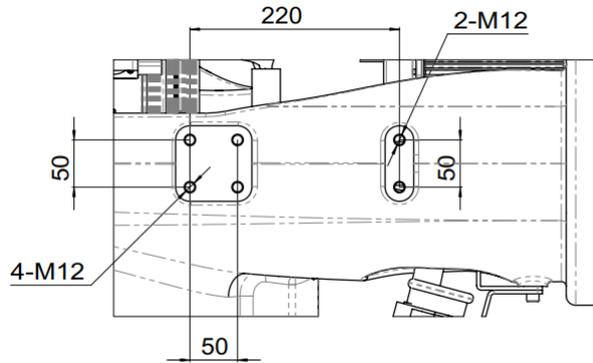

Figure 7-13 Diagram of the size of the elbow load interface of the manipulator
- The center of mass of the elbow load should be located inside the 220mmx50mm area of the installation screw as shown in Figure 7-13.
The specifications and dimensions of the installation holes for the J3 axis elbow of the large load manipulator are shown in Figure 7-13.